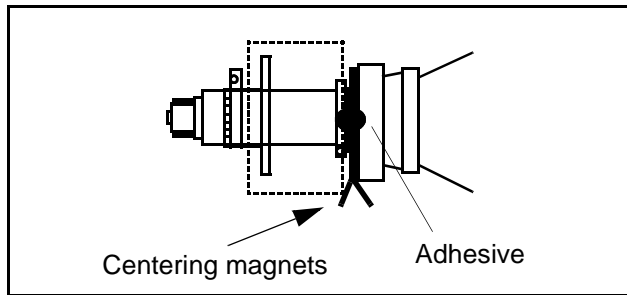

Figure 25. Adhesive removal
3. Remove adhesive from centering tabs and set centering tabs for zero correction. (figure 25)